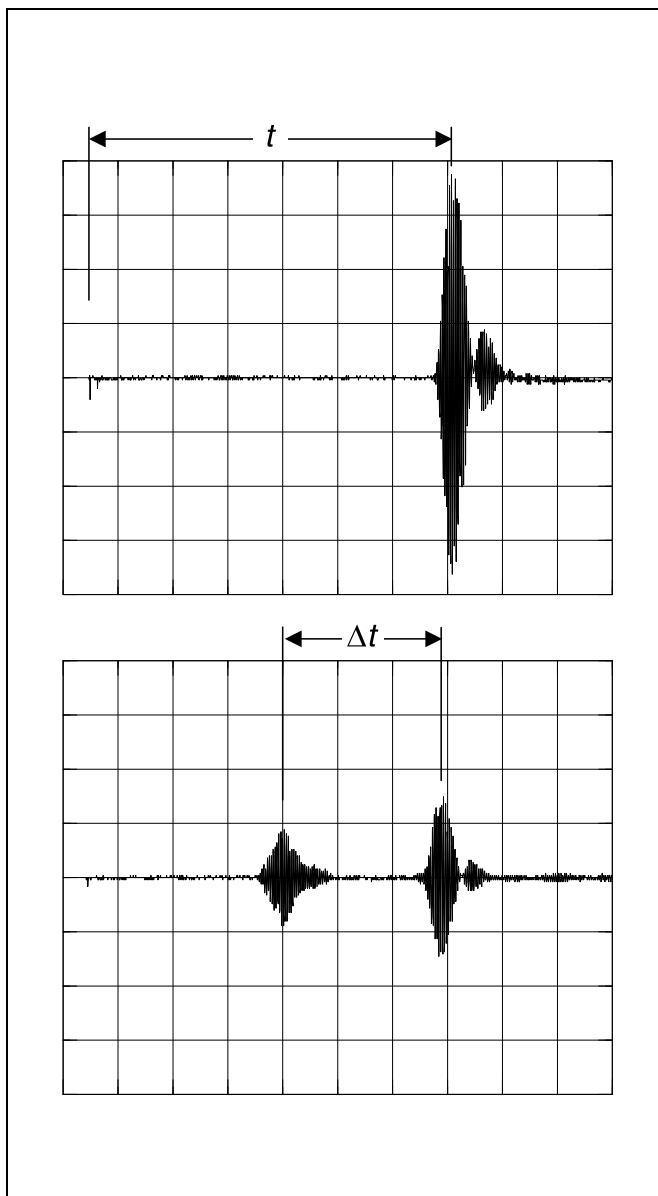

Fig. 1 Echo sounder signal for reflection at
- Vary the distance between the ultrasonic transducers and the reflection plate and observe the receiver signal on the oscilloscope (see Fig. 1, top).
- Read off the transit-time difference Δt from the oscilloscope (see Fig. 1, bottom).
- Read off the transit time t from the oscilloscope (see Fig. 1, top).
From the transit time difference $\Delta t = 11.6 \text{ ms}$ between two signals (see Fig. 1, bottom), we can use the sound velocity calculated above to compute the distance between the two obstacles as $\Delta d = 2 \text{ m}$.